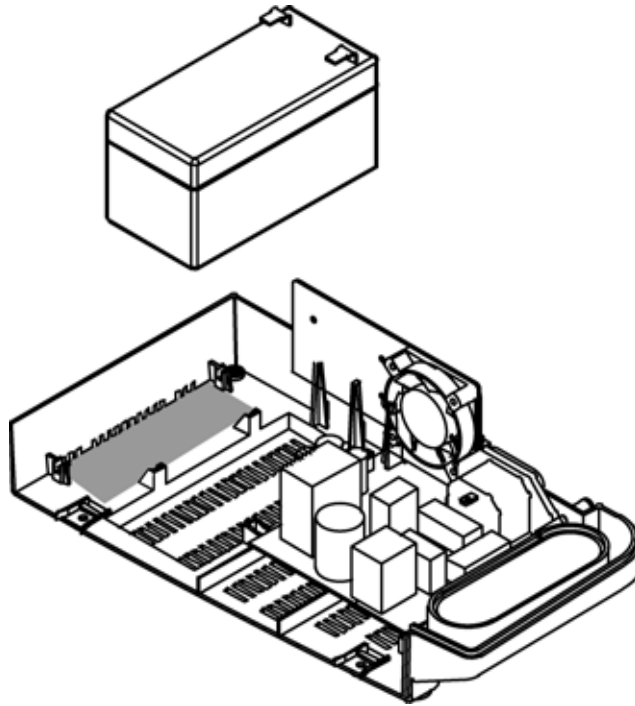

Figure 36: Battery Removed
4. Lift the battery out of the bottom case. See Figure 36.